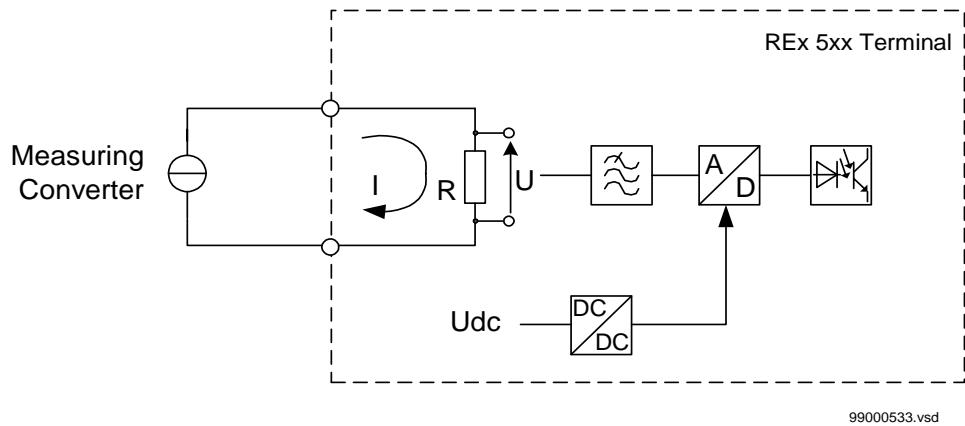

Figure 73: Simplified diagram for the function
On the accurate input shunt resistor (R), the direct input current (from the measuring converter) is converted into a proportional voltage signal (the voltage drop across the shunt resistor is in proportion to the measured current). Later, the voltage signal is processed within one differential type of measuring channel (figure 73).